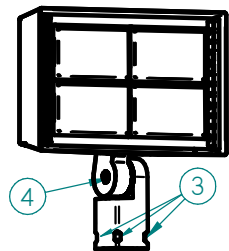

FIGURE 2
**Knuckle Mount (Fig. 2):**
- Mount fixture on 2 3/8" tenon, tighten down 4 set screws (Item 3 Fig. 2).
- Loosen bolt inside knuckle enough to adjust fixture. Once fixture is aimed at the desired target, tighten the bolt (Item 4 Fig. 2).